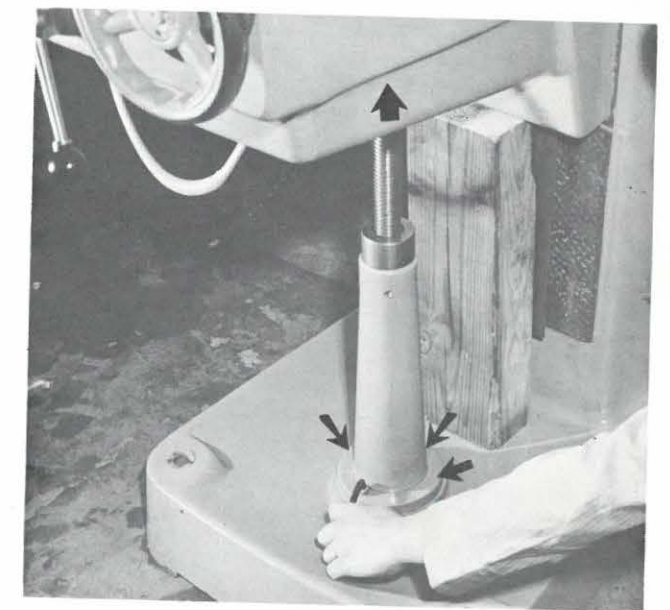

FIGURE 23
- Run knee up near its topmost position. Remove four cap screws (14B) from base and tap base to loosen two straight 3/8" pins (12B). Clamp knee and place a wood block under it next to column. Turn elevating crank and raise elevating screw pedestal (11B). [Figure 23.]